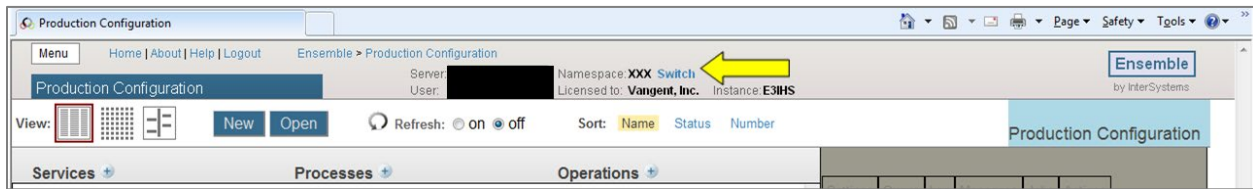

Figure 5-4: **Switch** link
1. To select the AGMPIxxx namespace, click the **Switch** link appears at the top of the display area, as shown in Figure 5-4.